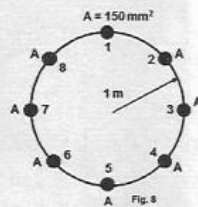

Fig.8
16. (a) Determine the bending stresses developed in the idealized section shown in Fig.8. The section is subjected to bending moments with respect to centroidal axes X and Y and they are $M_x = 10$ kN-m and $M_y = 5$ kN-m.
- (b) Determine shear flow distribution for the idealized section shown in Fig.8. The section is subjected to upward shear force of 20 kN at the center.